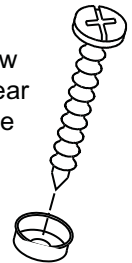
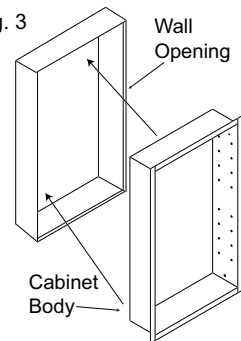

Fig. 3
Fig. 4
- Note: For ease of installation, an additional person is recommended. Insert cabinet into wall opening. (Fig.3) Ensure the cabinet is plumb and level. If necessary use a carpenter's level and shim corners of cabinet. Secure to wall studs through the four (4) mounting holes inside cabinet, using the screws that have been placed into the plastic bases. (Fig. 4) Do not over tighten the mounting screws as the body side wall may bend and prevent proper shelf installation. Only tighten screws until they are flush with the body.